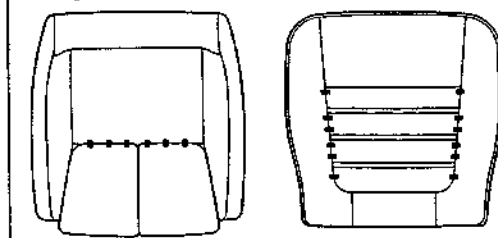

Fig. 9-329
- (1) Install the hug rings at the front side of the front seat cushion. (See Fig. 9-329.)
- (2) Install the hug rings at the back side of the front seat cushion.